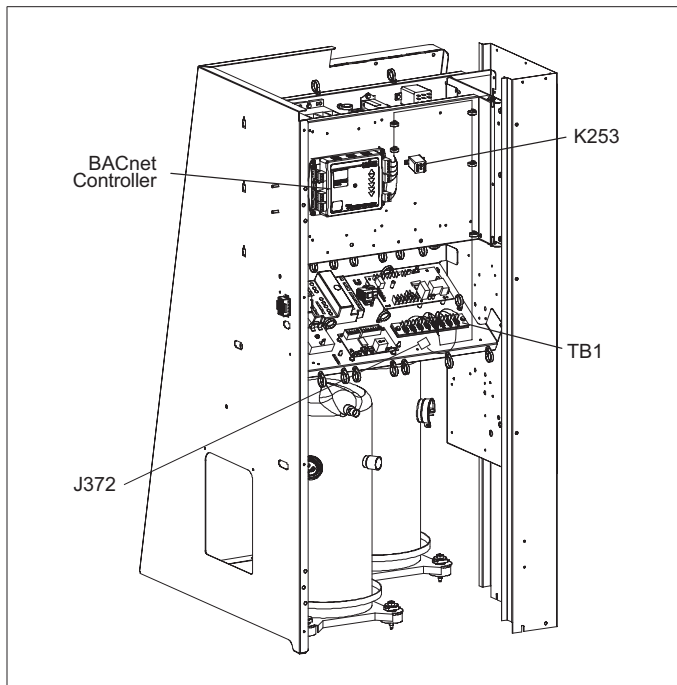
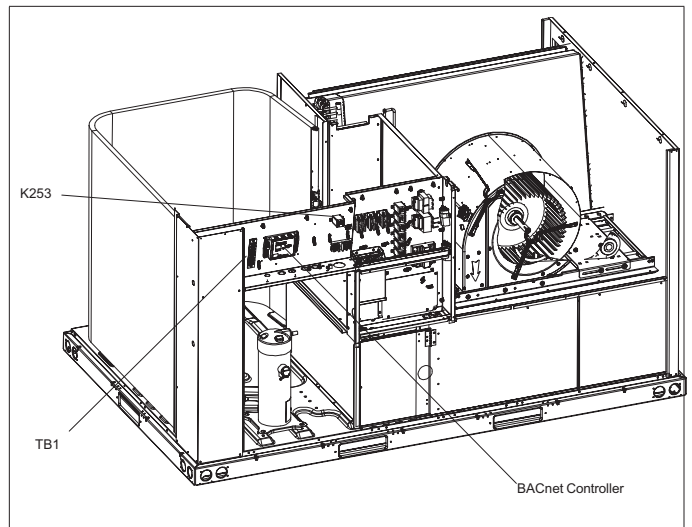

Figure 6. Landmark B-Box
Figure 7. Raider B-Box
- b. B Box Units - Position the BACnet assembly in front of control panel and secure the assembly with the provided three #8-32 x 1/2" TFS screws to the control box located at the right-side of control panel, see "Figure 6. Landmark B-Box" on page 4 and "Figure 7. Raider B-Box" on page 4).